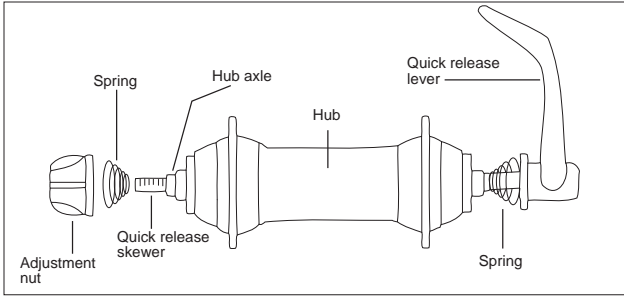
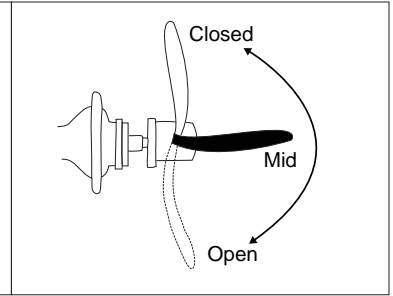

Fig. 33: Traditional quick release; diagram of parts.
Fig. 34: Positions of a quick release.
- Traditional quick-release (rear wheel Fig. 33).
1. Move the quick release lever to the OPEN position (Fig. 34) and set the wheel so it fully engages the frame dropouts.
2. With the lever in the MID position (Fig. 34), tighten the adjusting nut (Fig. 33) until it is slightly tight.
3. Move the quick release into the closed position (Fig. 34) with the palm of your hand.
1. Open the quick release lever (Fig. 34).